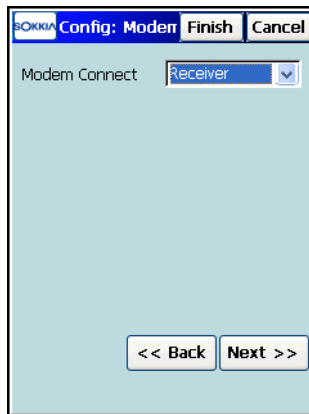

Figure 4-36. Modem Connect
- On the *Config: Modem* screen (Figure 4-36 on page 4-30) select *Controller* if the modem is connected to the controller or *Receiver* if the modem is internal or external, but connected directly to the receiver.